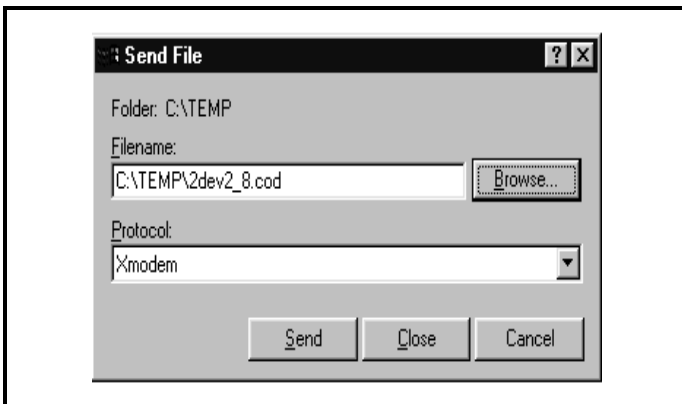

Figure 8-10: The Send File Window in the Transfer Menu
2. Return to the PC Hyperterminal program. In the Hyperterminal window, pull down the *Transfer* menu and click *Send File*. A window opens similar to Figure 8-10 below.